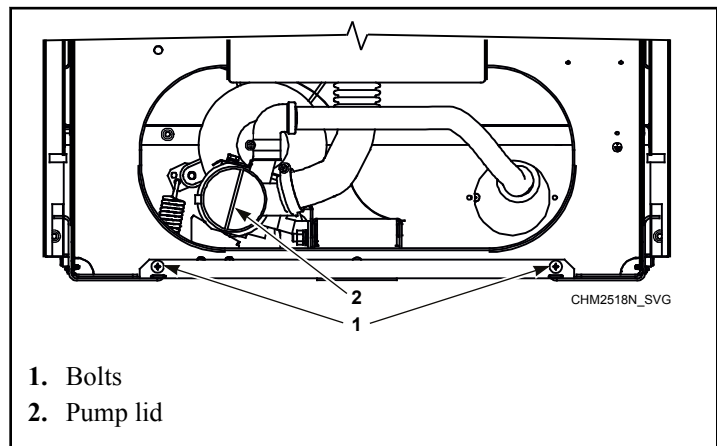

Figure 39
- c. Remove the front panel of cabinet by unlocking bolts. Refer to *Figure 39*.